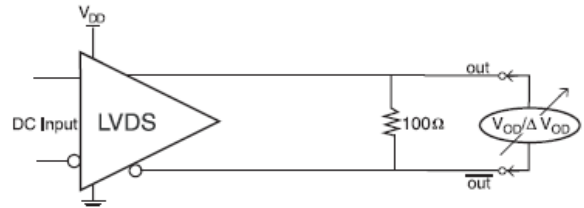

Figure 12. V_{OD} and ΔV_{OD}
6. $V_{OS\ max} + \frac{1}{2} V_{OD\ max}$. Also see Figures 12 and 13.
7. $V_{OS\ min} - \frac{1}{2} V_{OD\ max}$. Also see Figures 12 and 13.